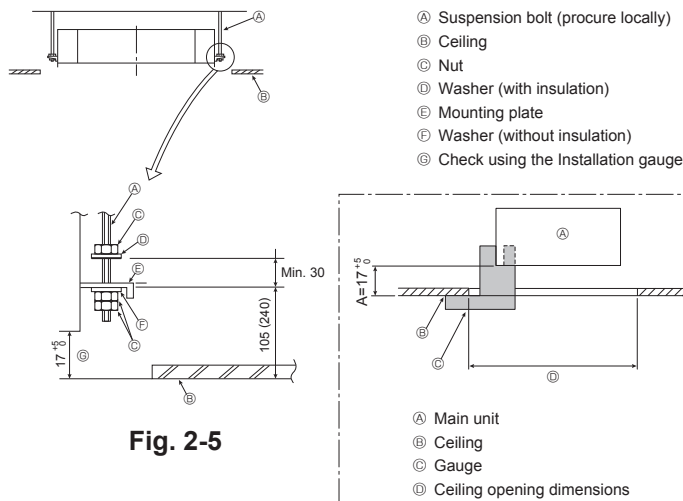

Fig. 2-5
⑦ Wooden structures
⑩ Ferro-concrete structures
2.5. Unit suspension procedures (Fig. 2-5)